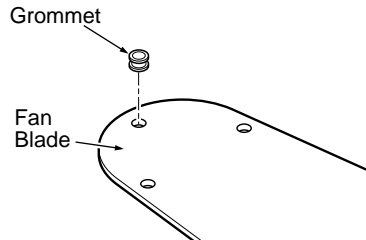

Figure 9a - Inserting Grommet into Fan Blade
1. Your fan may include blade grommets (see Parts List). If your fan has grommets, insert them by hand into the holes as shown in Figure 9a.